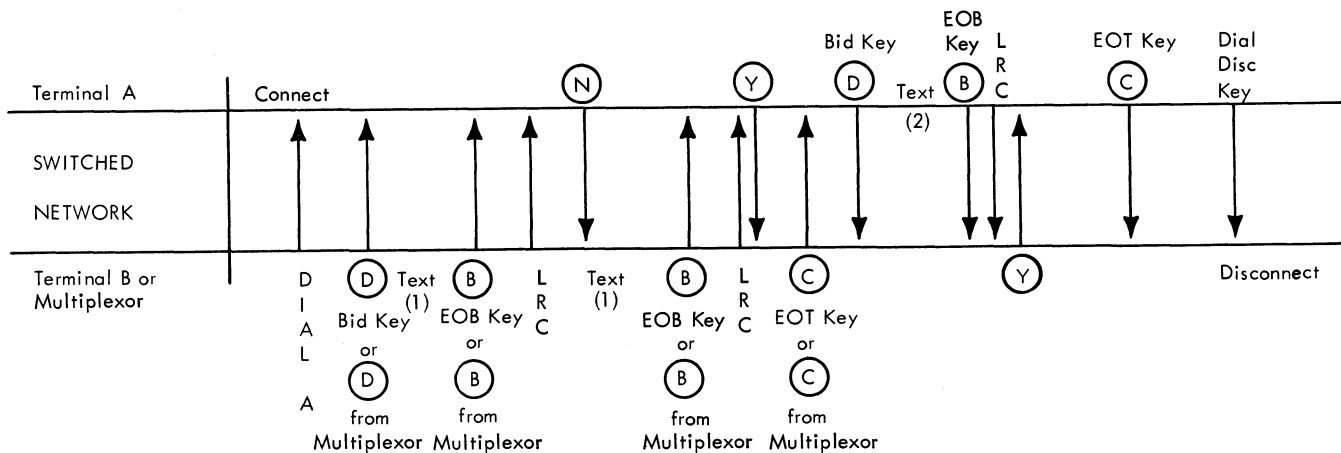

Figure 9. Dial-Up Operation with Checking (Dial-Up Adapter and Checking Special Features)
This operation (Figure 9) is similar to the previously described dial-up operation, except that both terminals must have the checking special feature (VRC--Vertical Redundancy Checking, and LRC--Longitudinal Redundancy Checking) in addition to the dial-up adapter special feature installed. Provided with the checking feature is the EOB key and the Restart key and light (refer to Transmission Controls and Indicators, Model 1 in this section of the manual for a detailed description of these items).
Any parity error received is printed as a hyphen or underscore character. The character printed on IBM World Trade machines depends upon the print element used and the error condition is remembered by the receiving terminal. When the transmitting station sends an EOB/LRC sequence, the receiving terminal replies with either a positive or negative response to the transmitting station (see Figure 9).
During transmission, each terminal (transmitting and receiving) records the bit structure of each character. The LRC counter at each terminal is started by the transmission of an EOA (D) signal which indicates the start of a message. The bits of all the characters of the message which then follow are recorded at both terminals until the EOB (B) signal is transmitted. This signal causes the contents of the transmitting terminal LRC counter to be sent to the receiving terminal (Figure 9).